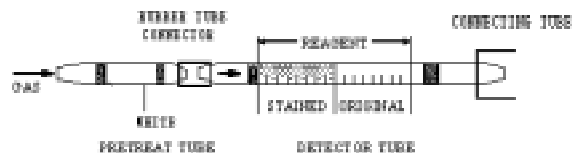

Fig.1
- ① Break both ends of detector tube and pre-treat tube with attached ampule cutter, and connect each end of the detector tube and pre-treat tube with rubber tube connector as shown in Fig.1.
- ② Insert the detector tube into connecting tube of MODEL S-20 Air sampler, and fix it into the detector tube holder. (If connecting direction of detector tube or pre-treat tube is wrong, correct readings cannot be given)
- ③ Turn ON power of Model S-20.
- ④ Preset TIMER at 20 minutes.
- ⑤ In accordance with Instruction manual of each air sampler, preset TIMER (Hours) at 20 minutes and adjust sampling amount at 200 ml/min.
- ⑥ After completion of sampling (20 minutes), remove detector tube and read the scale at the top of the stained layer.